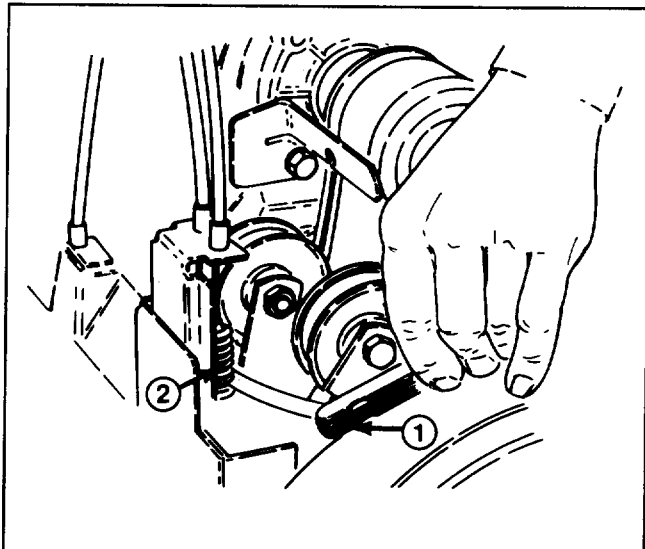

Figure 25
2. CHECKING IMPELLER CABLE ADJUSTMENT—With the engine off, depress the impeller lever on the right handgrip. Hold the lever and insert a .010" (.25mm) feeler gauge between the coil in the center of the spring (Fig. 25). Adjust the cable to achieve .009" - .012" (.23mm - .3 mm) gap between the coils.